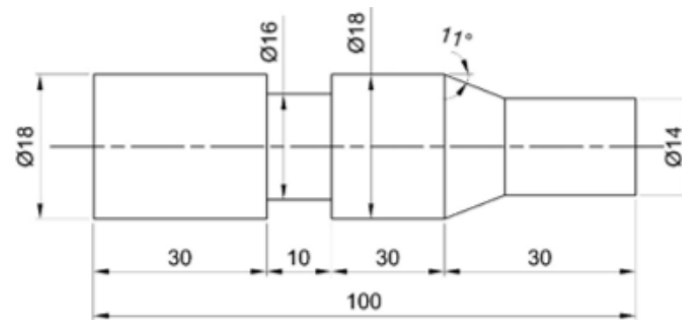

Figure 6.2. Step turning with taper operation
- Preparation of aluminum material for step turning with taper operation as shown in the Figure 6.2.